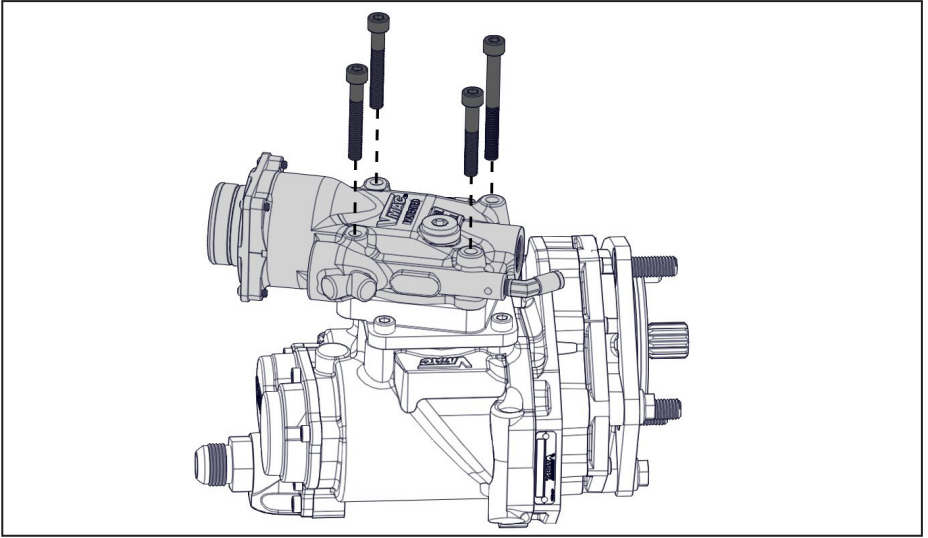

Figure 12 — Remove intake
- ☐ Remove the inlet and O-ring from the compressor and cover the opening of the compressor to prevent any contaminants from entering the system (Figure 12).